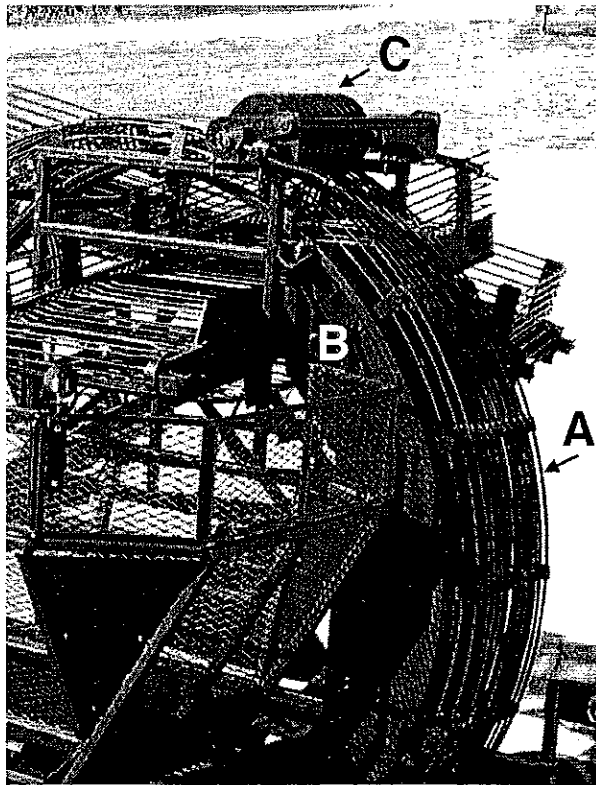

Figure 39. Wheel Elevator Details
The wheel elevator (Figure 39-A) revolves at approximately 11 RPM at 1000 PTO RPM. The wheel elevator carries the beets up to and deposits them in the tank elevator. The retainer (B) holds the beets in the wheel until they get to the top and fall onto the tank elevator. The stripper (C) clears the wheel elevator of any rocks or beets that get wedged between the wheel rods.